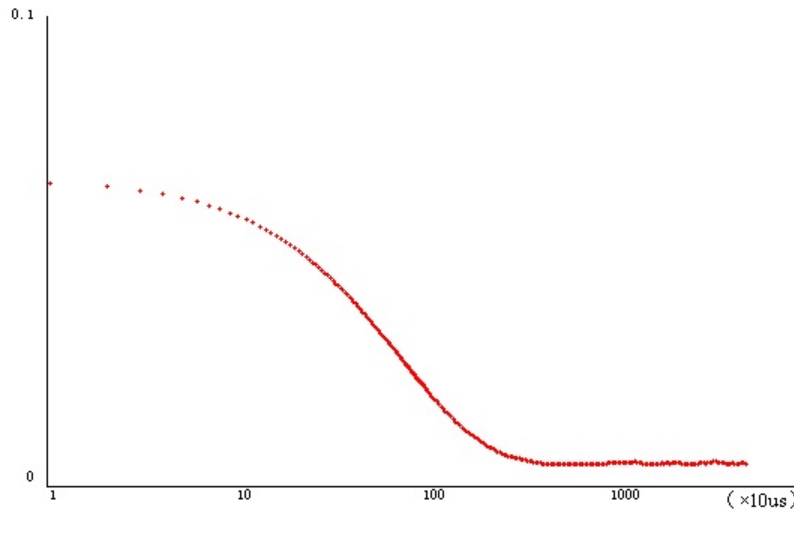

Figure 4: The Ideal Correlation Curve
6.1.3.3.4 The ideal correlation curve is shown in the figure 4. The front part of the curve is on a downward trend, the latter half is in a stable state, and the inflection point shall be between 100-1000;